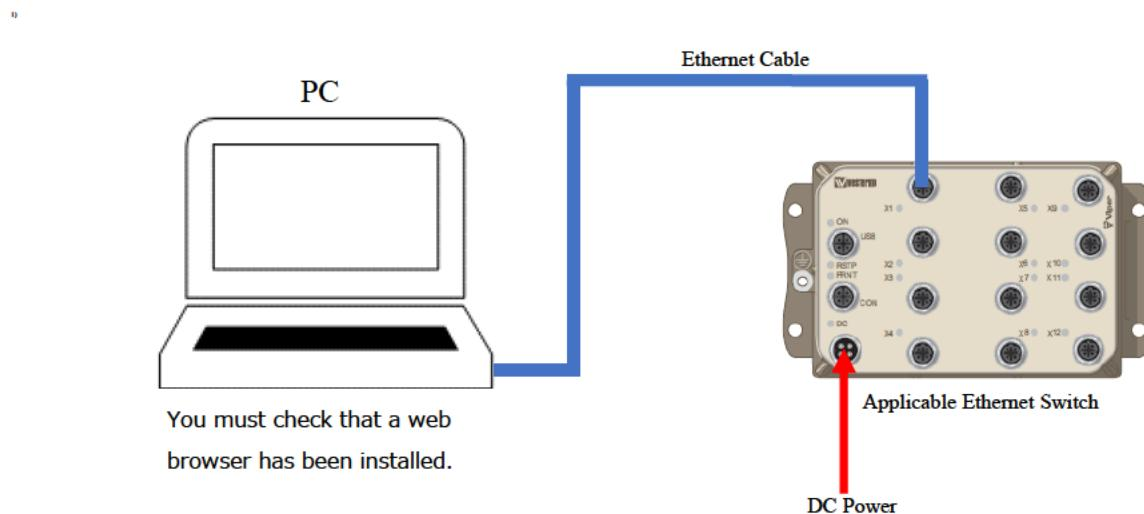

Figure 8-8: System Configuration
2. Remove all Ethernet cables from the Ethernet switch except the one which connects with the Laptop PC. The DC power cable shall not be removed as well. (Please refer to Figure 8-8 for Ethernet switch layout)
9. Re-connect all Ethernet cables from the Ethernet switch except the one which connects with the Laptop PC. (Please refer to Figure 8-8 for Ethernet switch layout.)